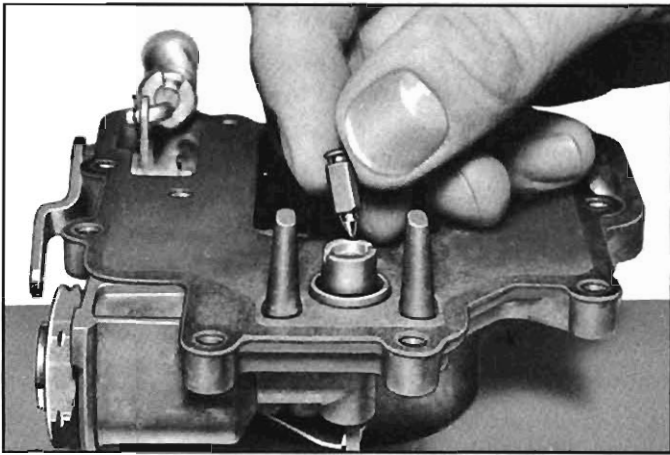

Fig. 9-16—Removing Float Needle
7. Lift out float needle (fig. 9-16). Check seat for dirt or corrosion.